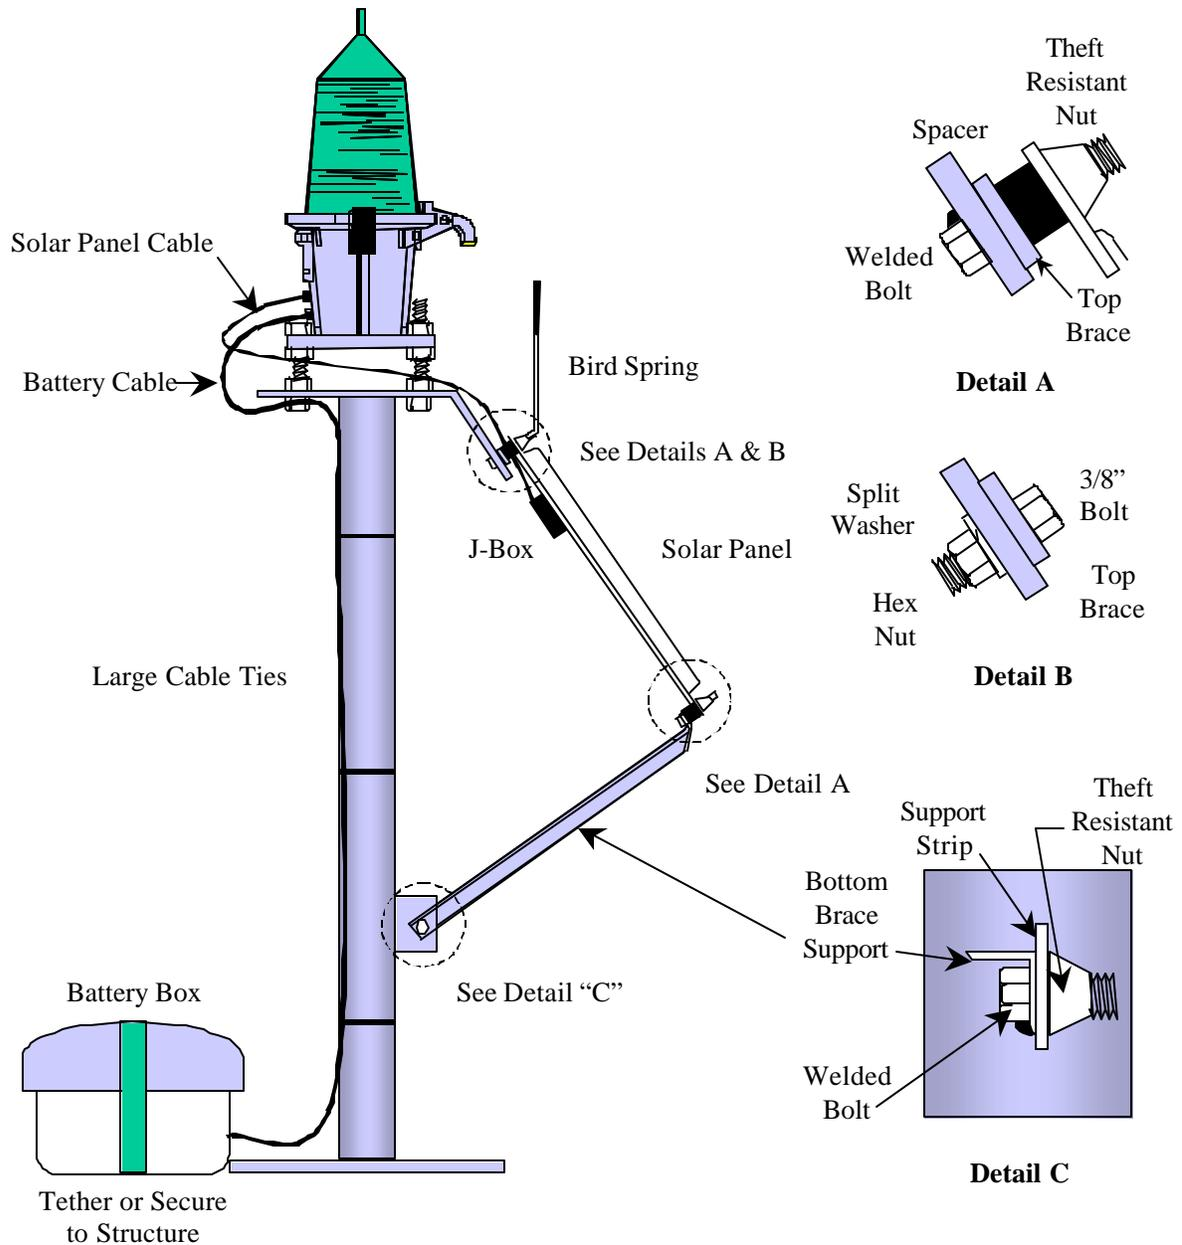

Figure 2.
10. Attach the "Bottom Brace Support" to the "Support Strip" on the pipe stanchion, as shown in Figure 2. Install a theft resistant nut. DO NOT TIGHTEN.
17. Install bird springs, if desired, and bend up as shown in Figure 2.